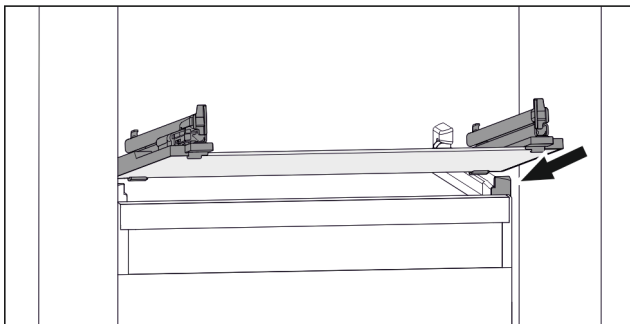

Fig. 48 Example illustration of glass shelf
- ▶ Position glass shelf at an angle behind the stoppers. (see Fig. 48)